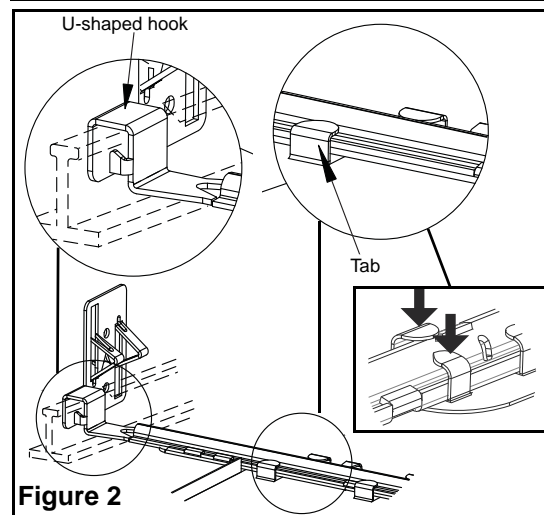

Figure 2
#### Suspended ceiling (Figure 2)
3. Slide and align the plate into its final position and fold down and press the tabs to lock the plate onto the mounting bars (see fig. 2).